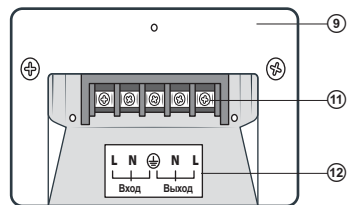

Fig. 4. Terminal box
- Voltage consumer-devices should be connected when the AVR is off. Open the terminal box ⑨ and with the help of relevant cables (not included) connect the appropriate load to the AVR terminals ⑩, after that connect the AVR to the 220 V household mains according to the diagram ⑫ in Fig. 4.